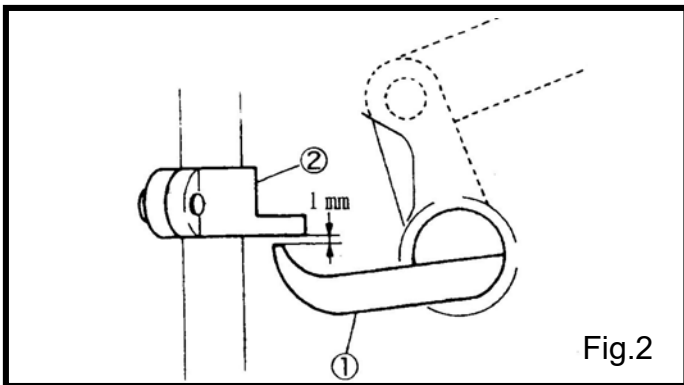

Fig.2
1. 當壓腳緊貼在針板上時，在抬壓腳連接軸①跟壓腳連接托架②留 1mm 的間隙。(Fig.2,3)
1. As standard, make the clearance between the presser bar lifter lever① and the presser bar connecting bracket② to 1 mm when the presser foot touches the stitch plate closely.(Fig. 2,3)